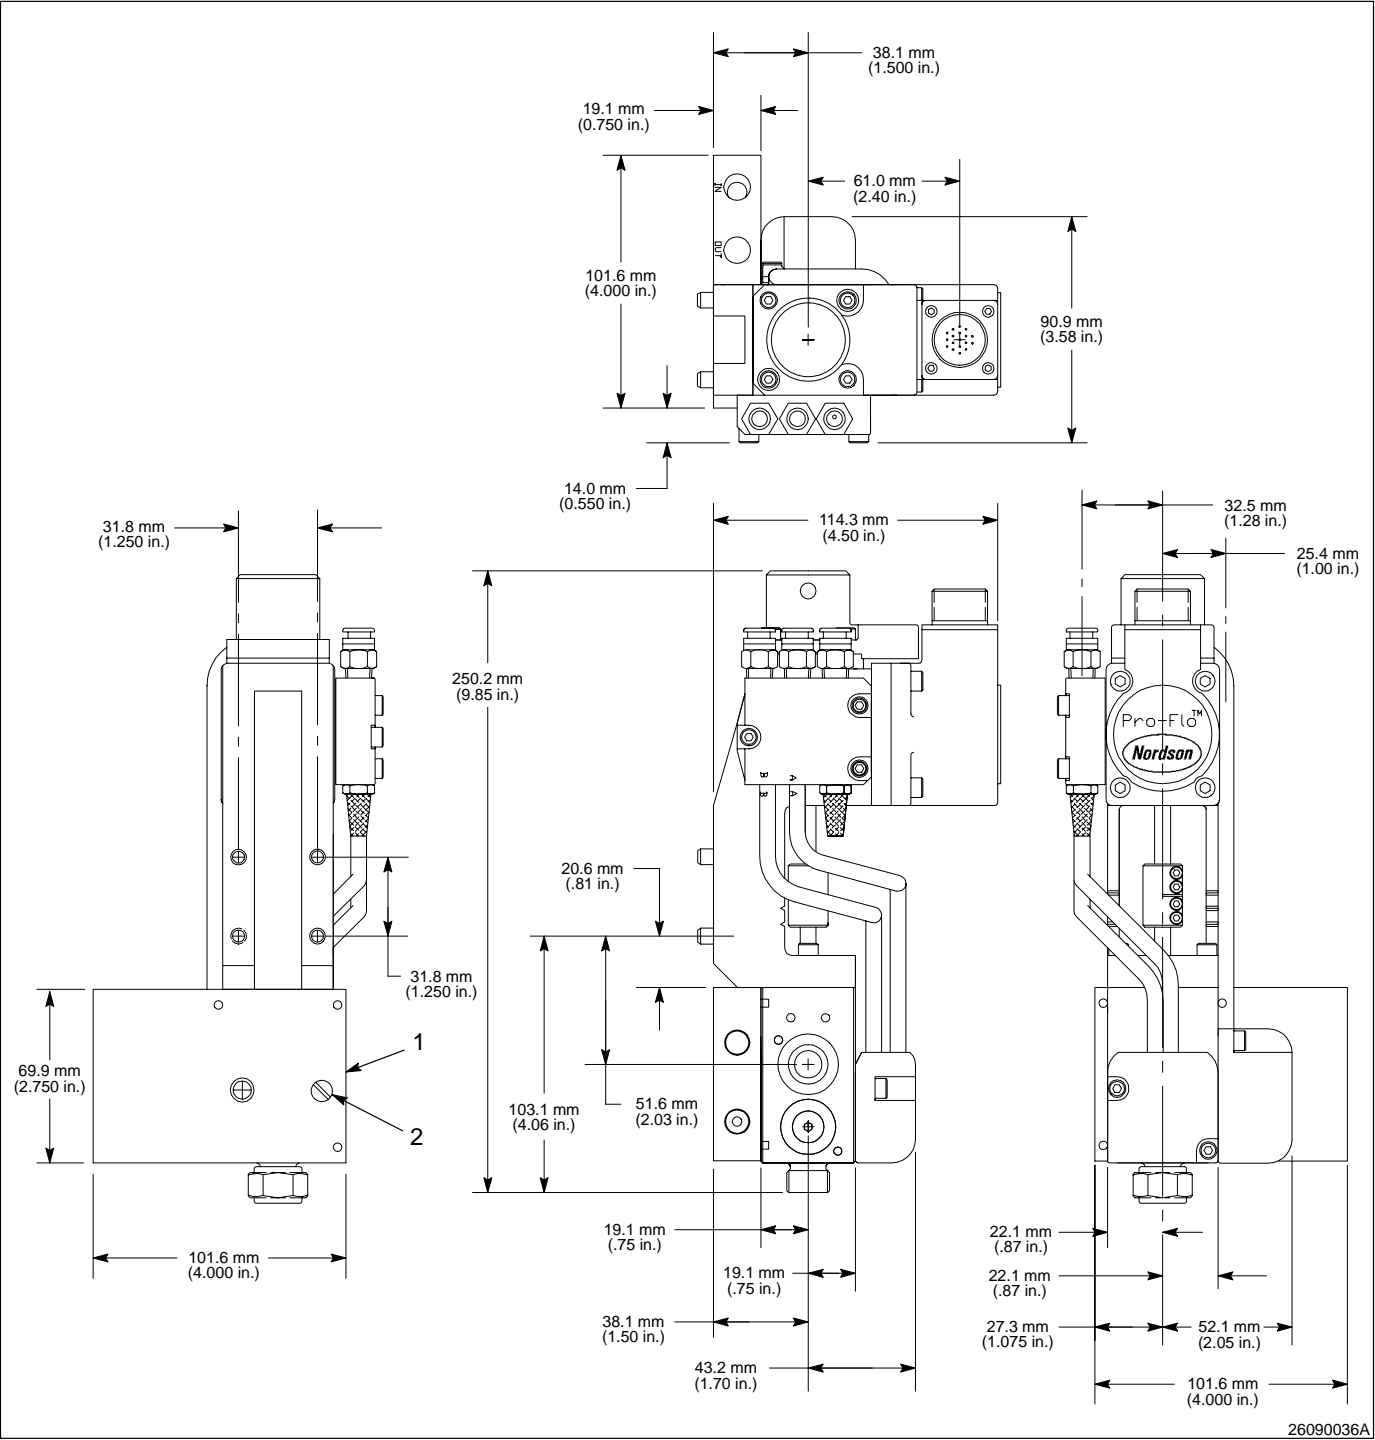

Fig. 7-12 Temperature Conditioner Dimensions
11. Temperature ConditionerSee Figure 7-12.